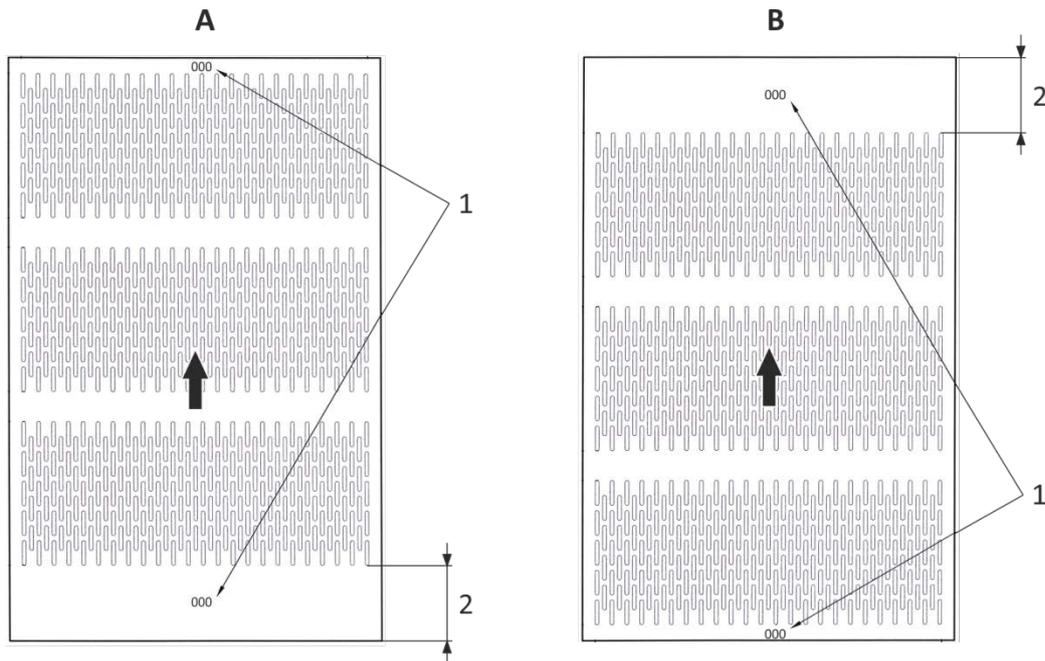

Figure 20: Grading sieve - mounting position
- ⇒ Pay attention to the mounting positions; refer to **figure 20**.